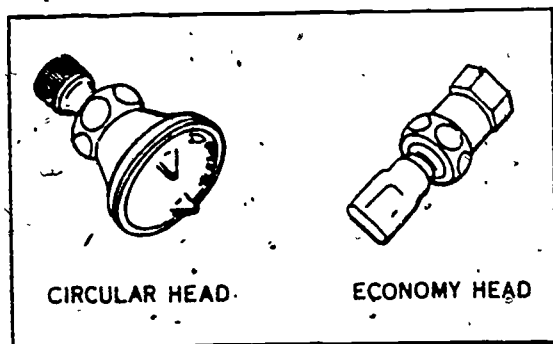

Figure 2-26. Types of shower heads.
d. Shower heads. The shower head is attached to a 45° fitting which is mounted on a chrome pipe. There are two general types of shower heads, circular and economy. The circular spray head, shown in figure 2-26, has a restricted nozzle which provides a finer spray and uses less water. Both shower heads have a ball-and-socket joint for adjusting the direction of the spray. Shower heads are usually made of chrome- or nickel-plated brass. Newer types of shower heads are being made of plastic and have the advantage of being noncorrosive. There is a tendency for deposits to form on the shower head because of the chemical content of water. Therefore, occasional maintenance is required to keep them functioning properly.